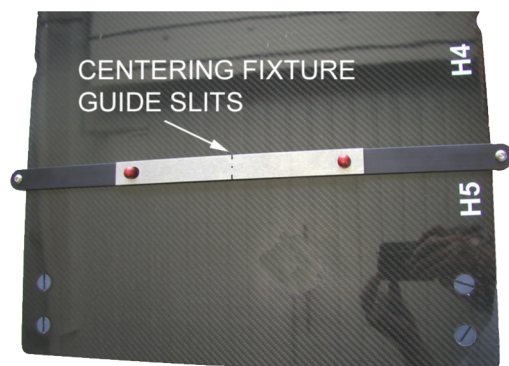

Fig. 20
2. Use the CT Laser alignment system to define the center of the CT Overlay on the head of the Overlay. Use the gripping eccentrics to center the Overlay on the beam. (see Step 14) (Fig. 20).